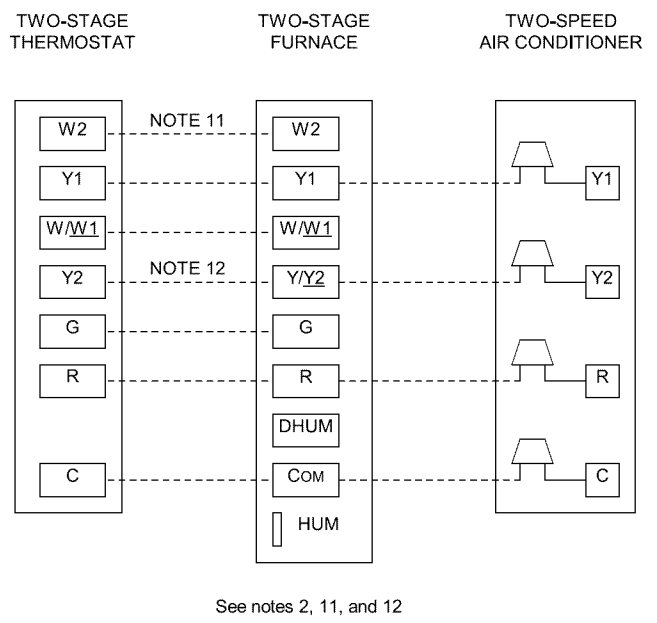

Fig. 57 - Two-Stage Thermostat with Two-Stage Furnace and Two-Speed Air Conditioner
3. Two-Stage Thermostat and Two-Speed Cooling (See Fig. 57 for thermostat connections)